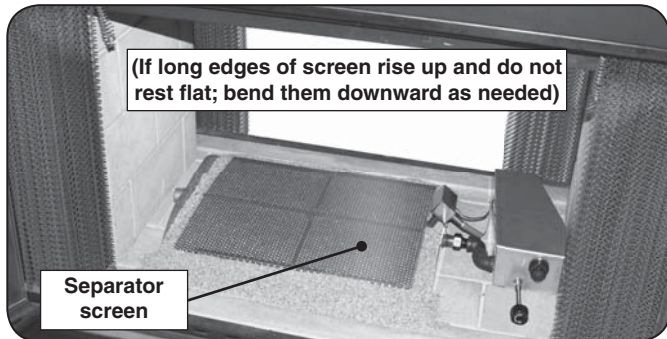

Fig. 8-2
2. Place the separator screen over the granules such that the long edges secure over the outside burner tubes, as shown in Fig. 8-2 and 8-3. If the long edges of the screen rise up and do not rest flat, bend them downward as needed.